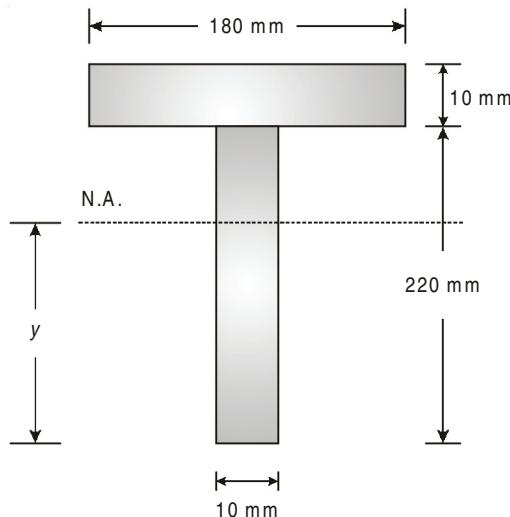

Fig. 3.22
- 3.20.** A beam having T-section with its flanges of 180 mm × 10 mm and web of 220 mm × 10 mm (Fig. 3.22) is subjected to sagging bending moment 15 kN-m. Determine the maximum compressive stress. **(UPTU : 2012–13)**